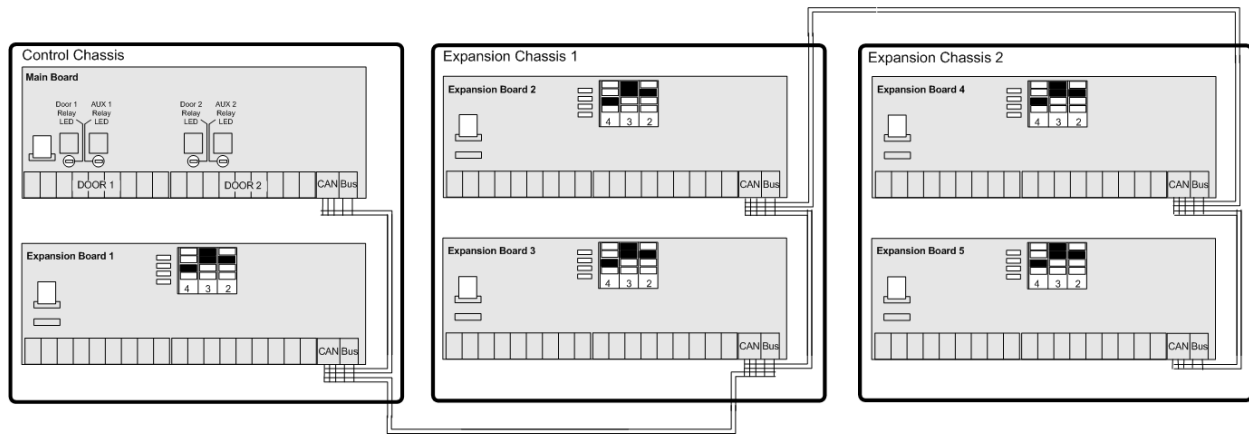

Figure 11. CAN BUS Configuration
- b) To daisy-chain the boards together: (See Figure 11 below.)